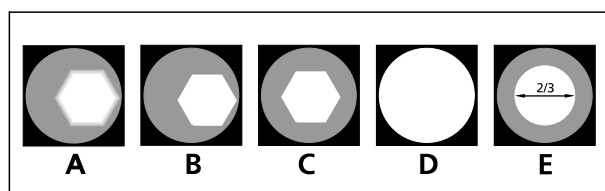

Fig. 0-1 Diaphragm setting in transmitted-light bright field according to KÖHLER
- (1) As described in Chapter 2 (Start-Up), the microscope is ready for operation and switched on according to Section 3.4.
- (2) Place a high-contrast specimen on the mechanical stage (cover slip pointing up).
- (3) Swivel in 10x objective on the nosepiece and focus on the specimen; where possible, always move the specimen away from the objective!
- (4) Move the condenser - e.g. condenser 0.9/1.25 H - to the upper stop position via the condenser drive. The height adjustment must be preset in such a manner that the specimen is not moved by the condenser. If the 0.9/1.25 H condenser is equipped with the slider for PH/H/Var, place it in the middle position for bright field.
- (5) Close the luminous-field diaphragm until it is visible in the field of view, even if not in focus (Fig. 0-1/A).
- (6) Lower condenser 0.9/1.25 H until the edge of the luminous-field diaphragm appears in focus (Fig. 0-1/B).
- (7) Center the luminous-field diaphragm using centering screws on the condenser carrier (Fig. 0-1/C) and open it until its edge just disappears behind the field of view (Fig. 0-1/D).
- (8) To set the aperture diaphragm (contrast), remove one eyepiece from the binocular tube and set the aperture diaphragm to approx. $2/3$ of the diameter of the objective exit pupil (Fig. 0-1/E). Optimum contrast setting is dependent on the specimen used.
- (9) Insert the eyepiece again and, where necessary, refocus on the specimen via the fine drive.
- (10) After each objective change, the field size and objective aperture change, which makes it necessary to repeat steps (5) to (9).